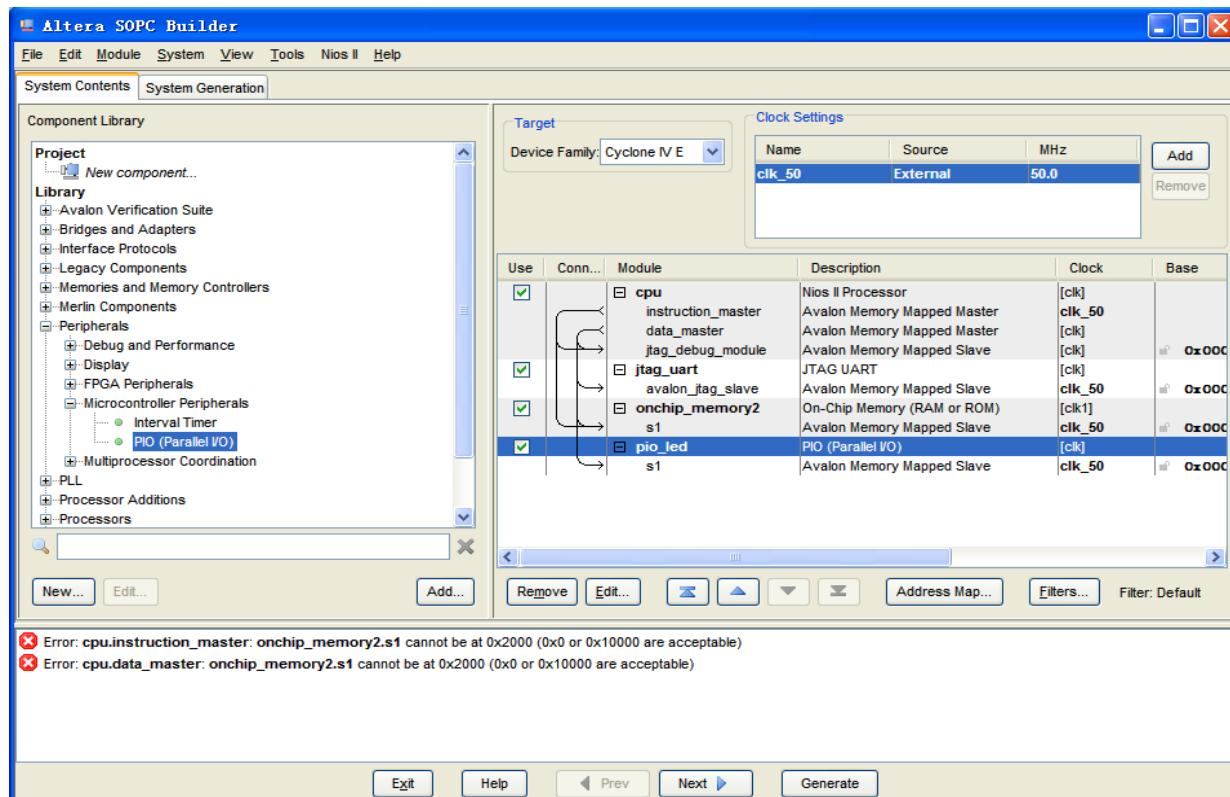

Figure 7-33 Rename PIO
21. Rename pio\_0 to pio\_led as shown in **Figure 7-33**.